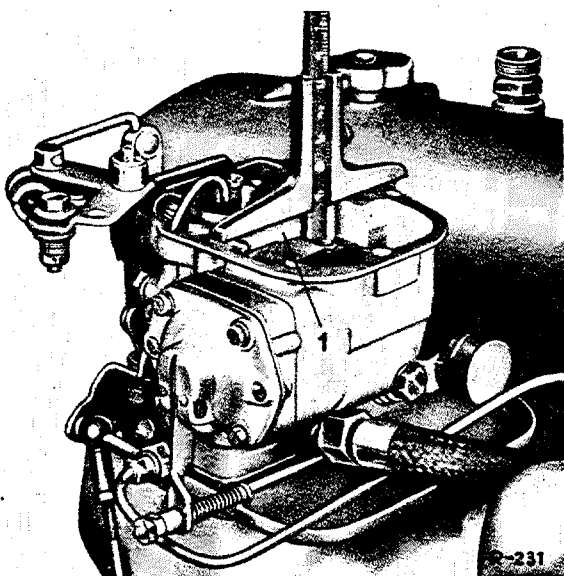

Fig. M 31 S/2
5. Measure the fuel level with the aid of a depth gage inserted at the separating partition of the float chamber, the measured distance being between the upper face of the carburetor housing and the surface of the fuel (see Fig: M 31 S/2).